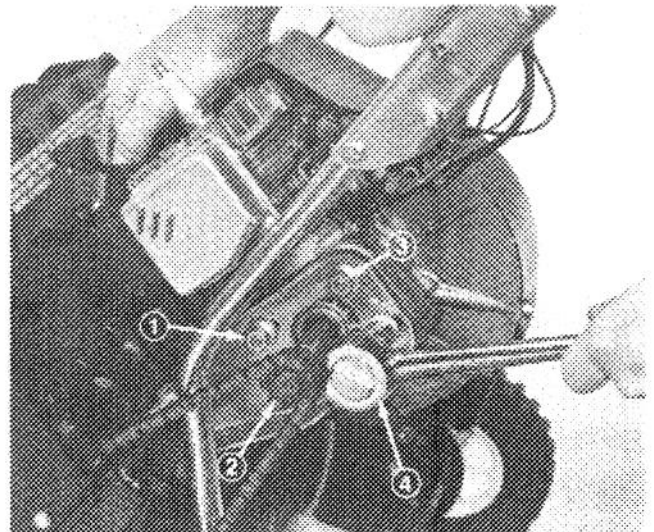

Figure 12
5. Pull engine back until chain is snug. Hand-tighten four mounting nuts to hold engine in place and to maintain proper chain tension (Fig. 12). Then tighten the nuts to 170-220 in./lbs using tightening sequence shown in illustration below. Tighten bolt on right side of engine.